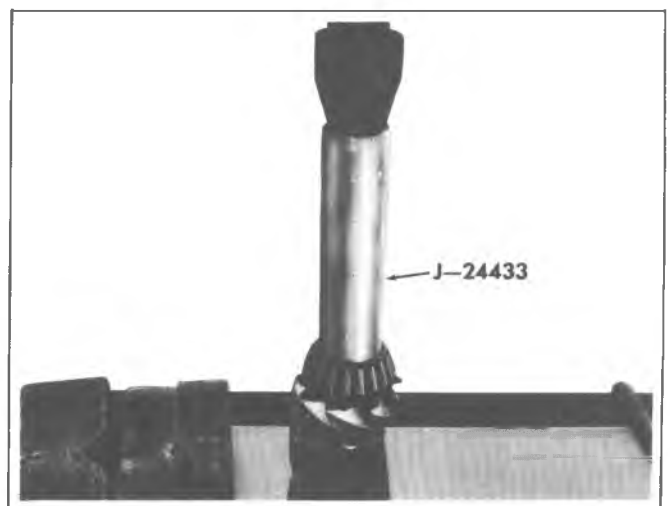

Fig. 13E--Installing Pinion Rear Bearing
2. Press pinion rear bearing onto drive pinion as shown in figure 13E, using J-24433.